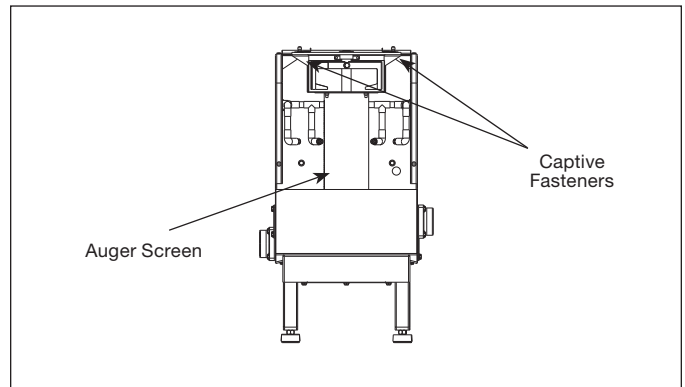

Figure 26.
3. Remove auger-bearing bracket by sliding the two captive fasteners inward and then pull bracket upward (see Figure 26 and 27).
4. Lift auger and screen up and then out (see Figure 26).